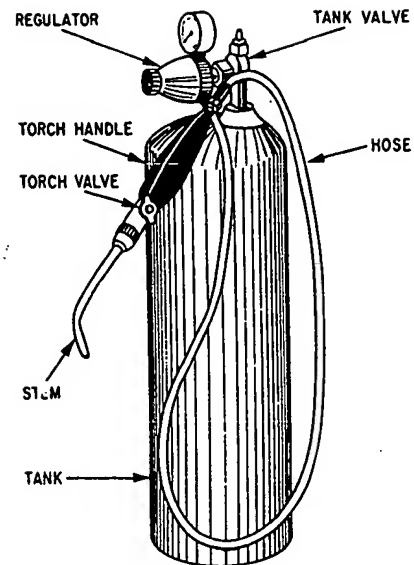

Figure 6-7.—Presto-lite heating unit.
**GAS TORCHES.**— Gas torches can be used in combination with soldering head attachments or as a direct heat source. The Presto-lite heating unit is ideal for soft soldering, because it delivers a small controllable flame. It also may be used effectively to heat soldering coppers. As figure 6-7 shows, this heating unit includes a fuel tank regulator, hose, and torch. It burns acetylene or MAPP gas as fuel in the presence of oxygen. The torch tip (stem) is interchangeable with other tips that come with the unit.